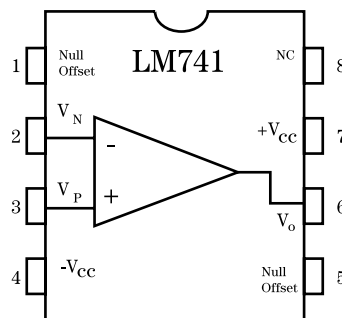

Figure 3
a. Study the chip layout of Fig. 3. The standard procedure on DIP (dual in-line package) “chips” is to identify pin 1 with a notch in the end of the chip package. The notch always separates pin 1 from the last pin on the chip. In the case of the 741, the notch is between pins 1 and 8.